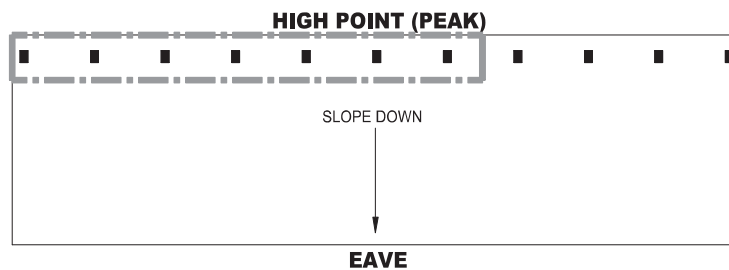

FIGURE 22A
- Calculate the most hydraulically demanding 7 contiguous DS sprinklers. See FIGURE 22A.